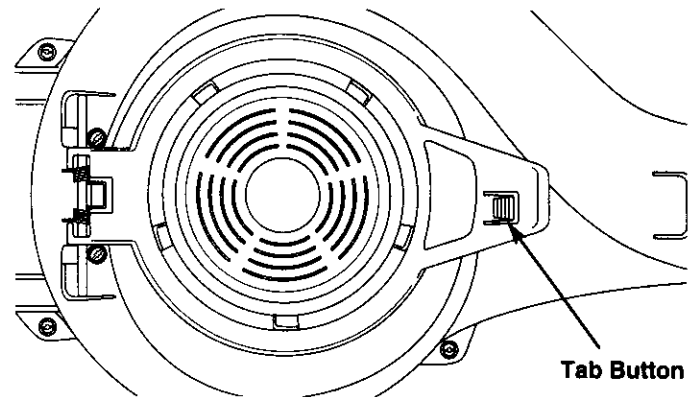

Fig. 3
2. Turn the unit over and open the vacuum door by pressing the tab button and swinging the door open (Fig. 3).